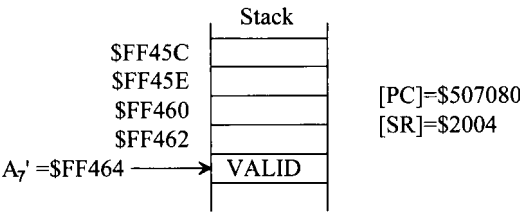

FIGURE P7.13
- 7.13 Assume the 68000 stack and register values shown in Figure P7.13 before the occurrence of an interrupt. If an external device requests an interrupt by asserting the IPL2, IPL1, and IPL0 pins with the value 0002, determine the contents of A7' and SR during interrupt and after execution of RTE at the end of the service routine of the interrupt. Draw the memory layouts and show where A7' points to and the stack contents during and after interrupt. Assume that the stack is not used by the service routine.